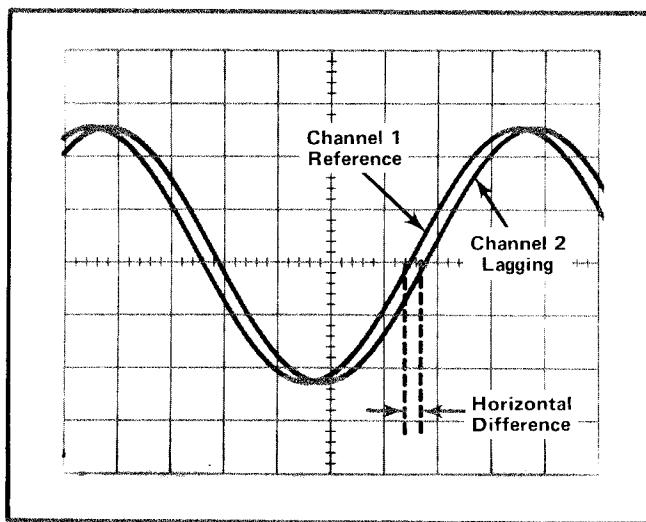
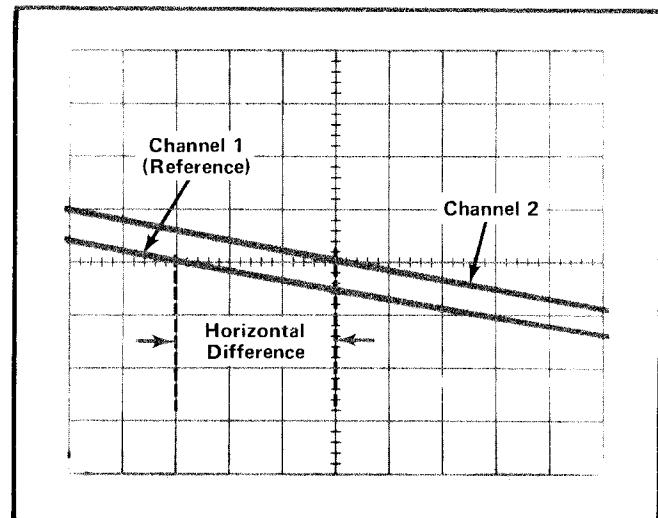

Fig. 2-4. Measuring phase difference between two signals.
Fig. 2-5. High resolution phase measurement using time-base magnifier.
8. Adjust the time-base Variable Time/Div control until one cycle of the reference signal occupies exactly eight horizontal divisions between the second and tenth vertical lines of the graticule (see Fig. 2-4). Each division of the graticule represents  $45^\circ$  of the cycle ( $360^\circ \div 8$  divisions =  $45^\circ$ /division). The sweep rate can now be stated in terms of degrees as  $45^\circ$ /division.
**EXAMPLE:** Assume a horizontal difference of 0.3 division with a sweep rate of  $45^\circ$ /division as shown in Fig. 2-4.
**EXAMPLE:** If the sweep rate is increased 10 times by the Magnifier, the magnified sweep rate is  $45^\circ$ /division  $\div 10 = 4.5^\circ$ /division. Fig. 2-5 shows the same signals as used in Fig. 2-4 but with the Magnifier set to X10. With a horizontal difference of 3 divisions, the phase difference is: